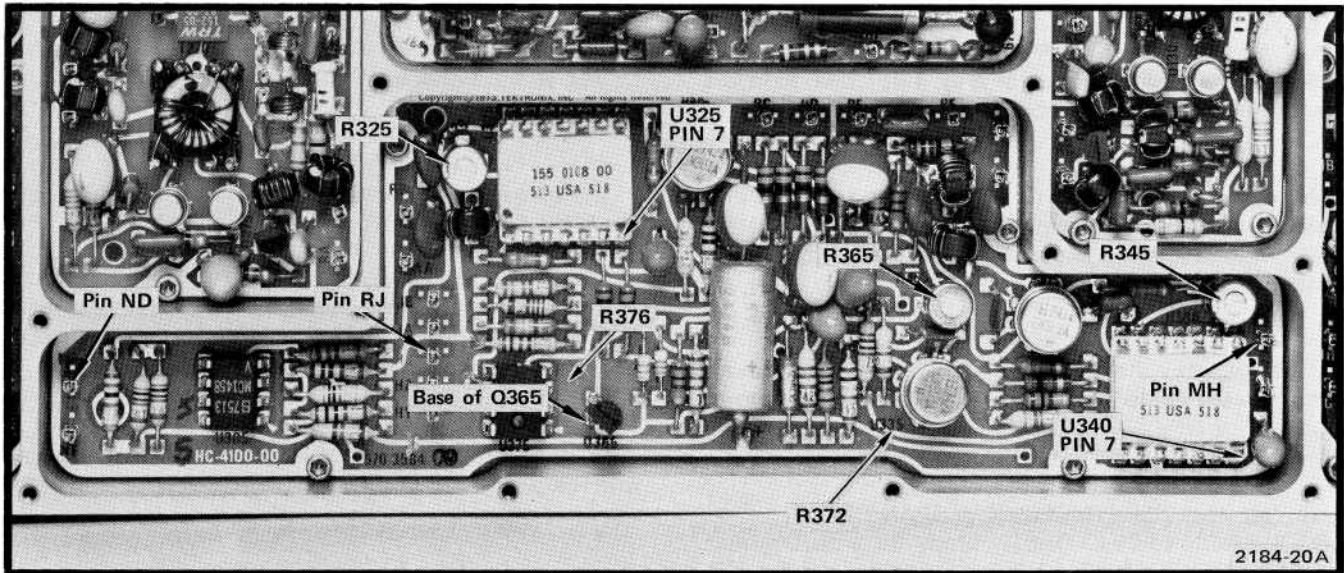
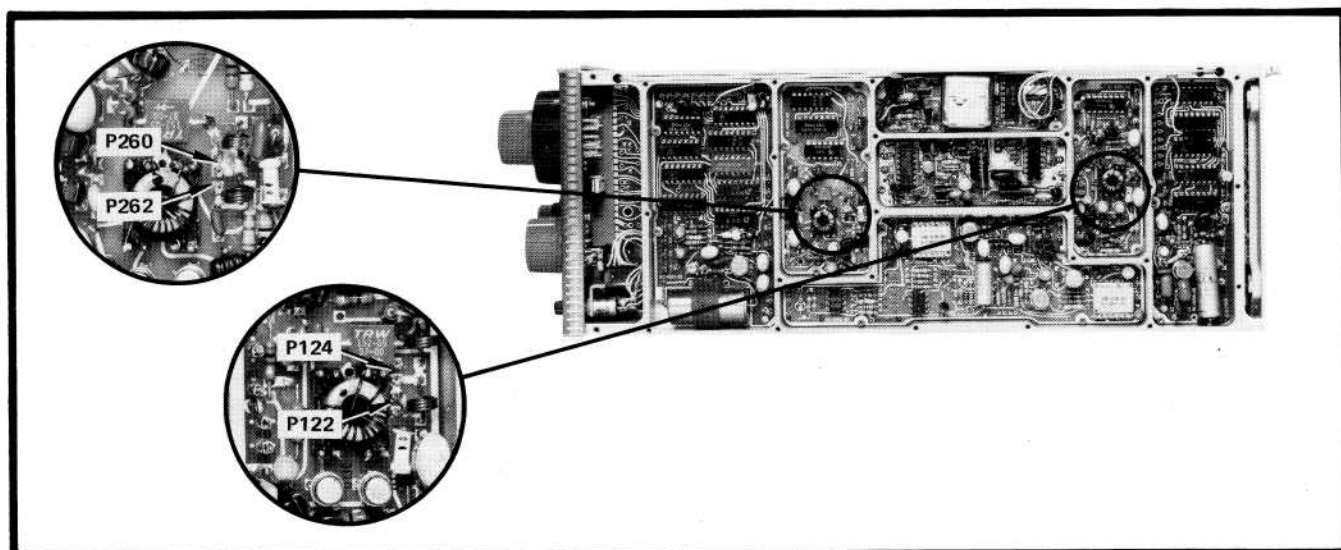

Fig. 4-6. Test point and adjustment locations for the A & B Oscillator Control.
Fig. 4-8. Location of A & B Oscillator frequency determining jumpers.
b. Connect a DVM (digital voltmeter) to the base of Q365 (A and B Oscillator Control 7) and adjust R365 (Fig. 4-6) for a reading of 11.00 volts.
1. Adjust R655 (Fig. 4-8) for 0 V at pin RJ (Fig. 4-6) then add or remove jumpers P122 and/or P124 (Tektronix Part No. 131-1493-00) so the DOT is close to, but not to the right of, center screen (high frequency side).
e. Set the DOT FREQUENCY to 00.00 kHz and connect the DVM to pin MH (A Memory) of the A and B Oscillator Control (Fig. 4-6). Note the voltage.
g. Adjust the A Memory Gain with R345 (Fig. 4-6) until the voltage difference between step e and f is 16.6 to 16.7 volts.
h. Set the DOT FREQUENCY to 50.00 kHz then check the voltage at pin ND of the A and B Oscillator Control (Fig. 4-6). If the voltage is more than  $\pm 1.5$  V, remove or add jumpers P260 and P262 (Fig. 4-8) to decrease the voltage below  $\pm 1.5$  V.
i. Set the DOT FREQUENCY to 99.75 kHz. Measure the voltage at pin ND of the A and B Oscillator Control assembly (Fig. 4-6). Note this voltage.
k. Adjust the B Gain with R325 (Fig. 4-6) until the voltage difference at pin ND, between the two DOT FREQUENCY settings (steps i and j), is 18.0 volts.